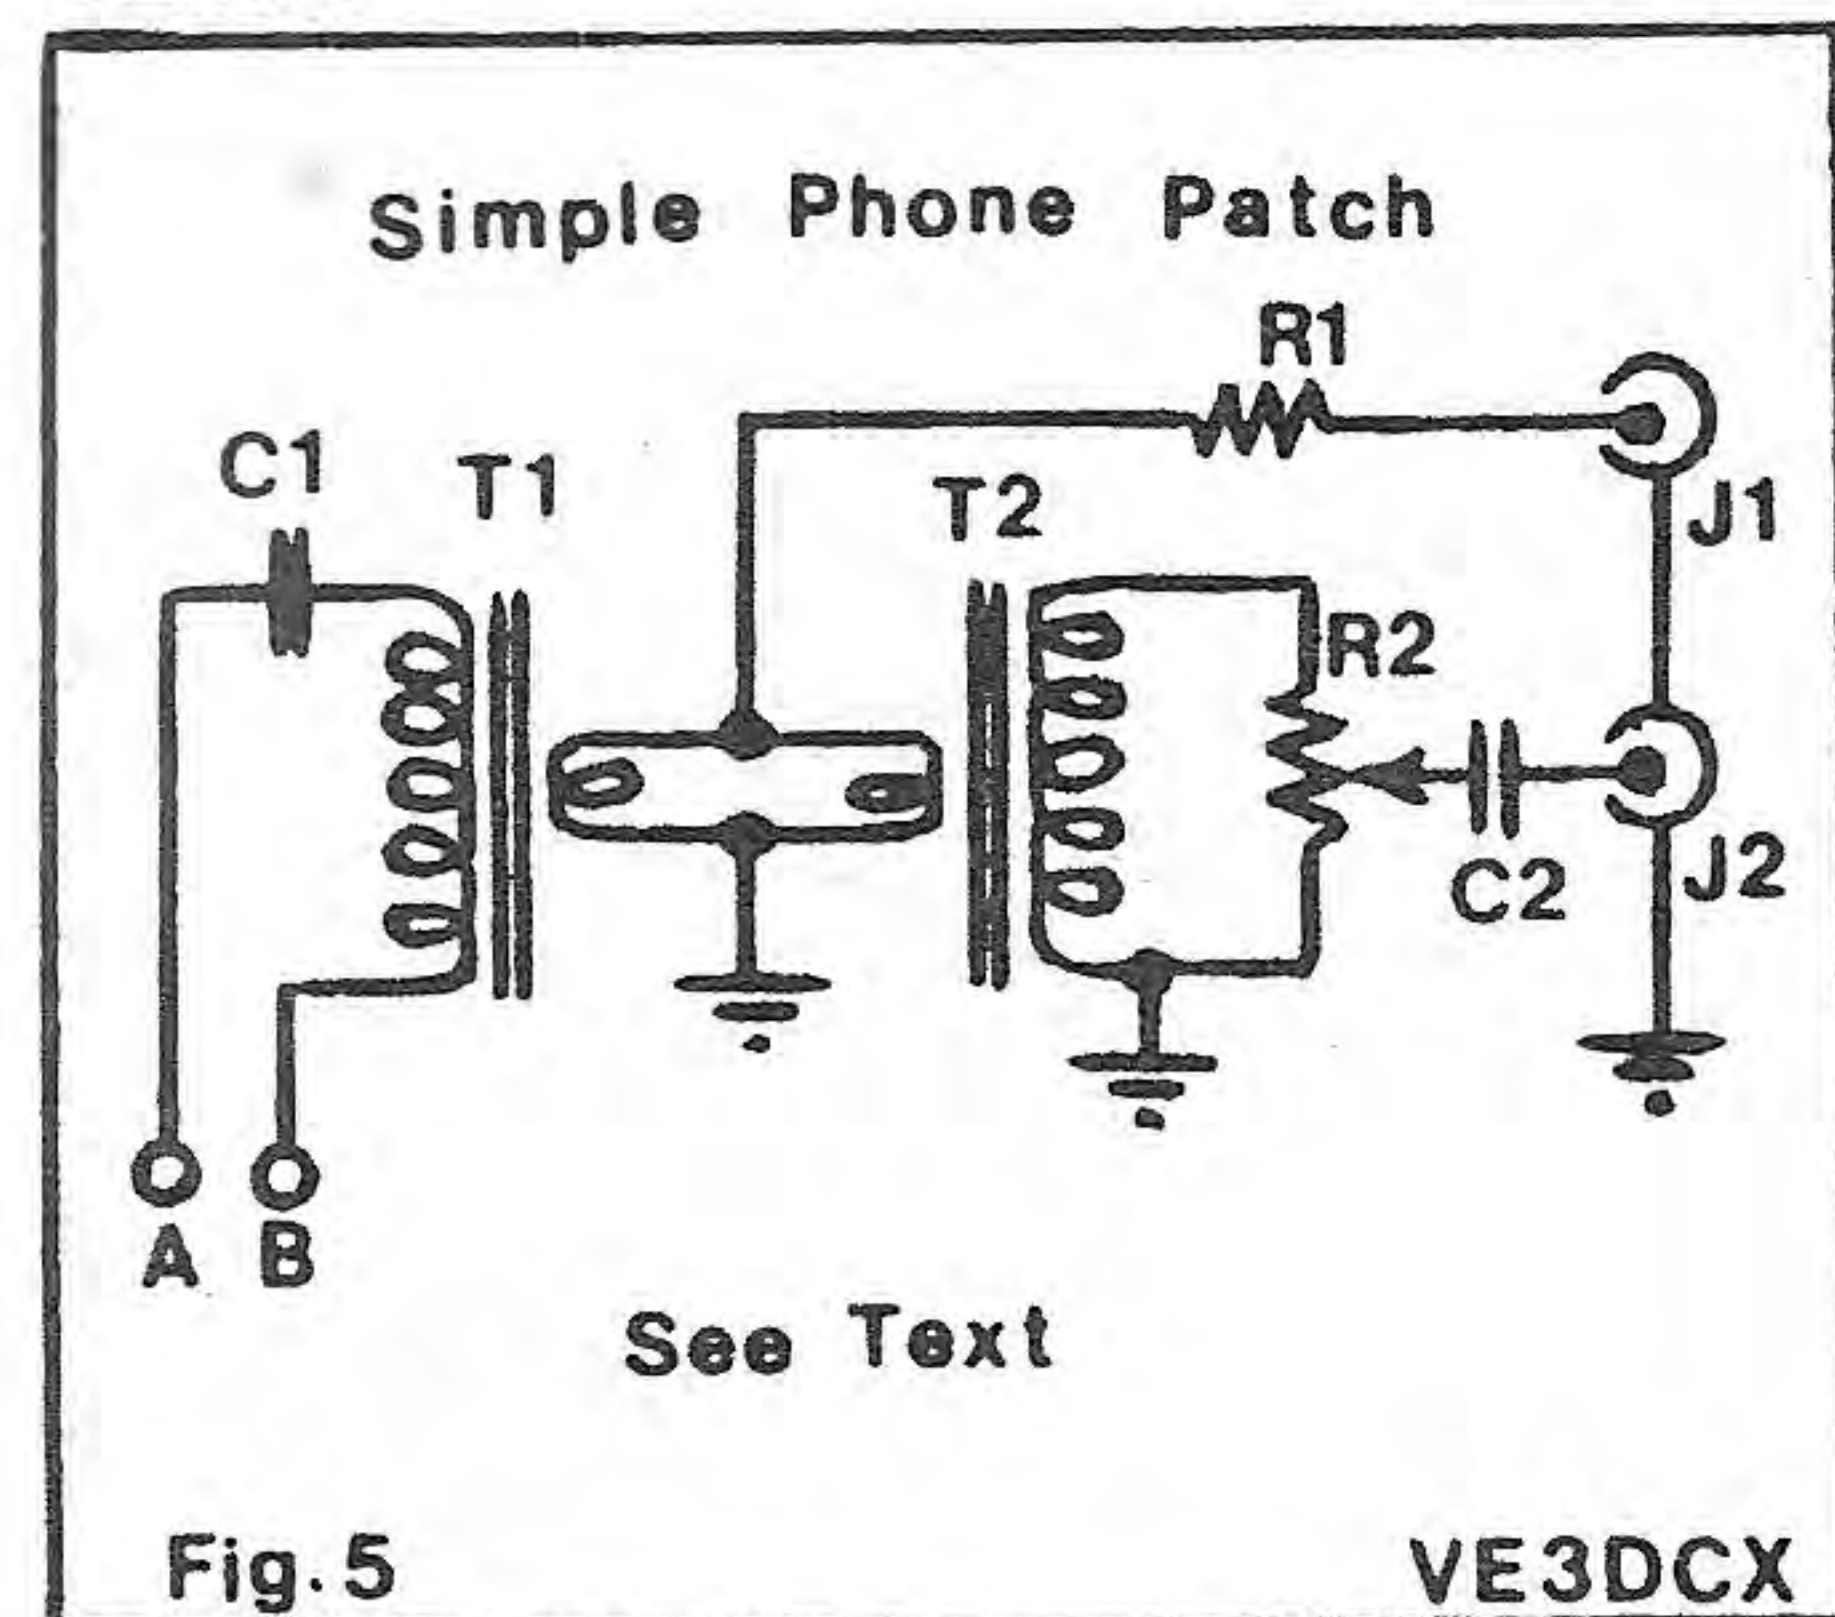

Fig.5
O) The buttons should now be wired as indicated in Figure 5.